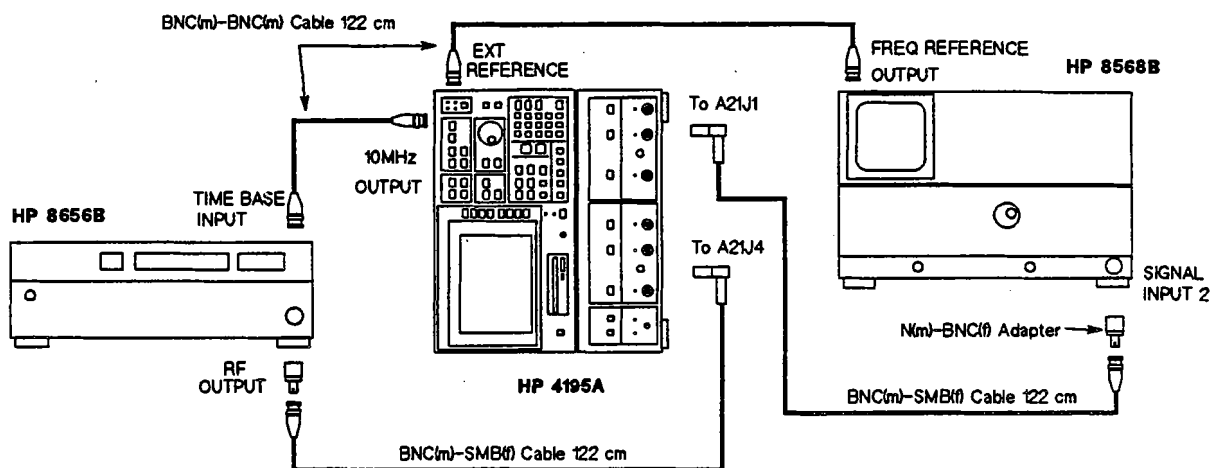
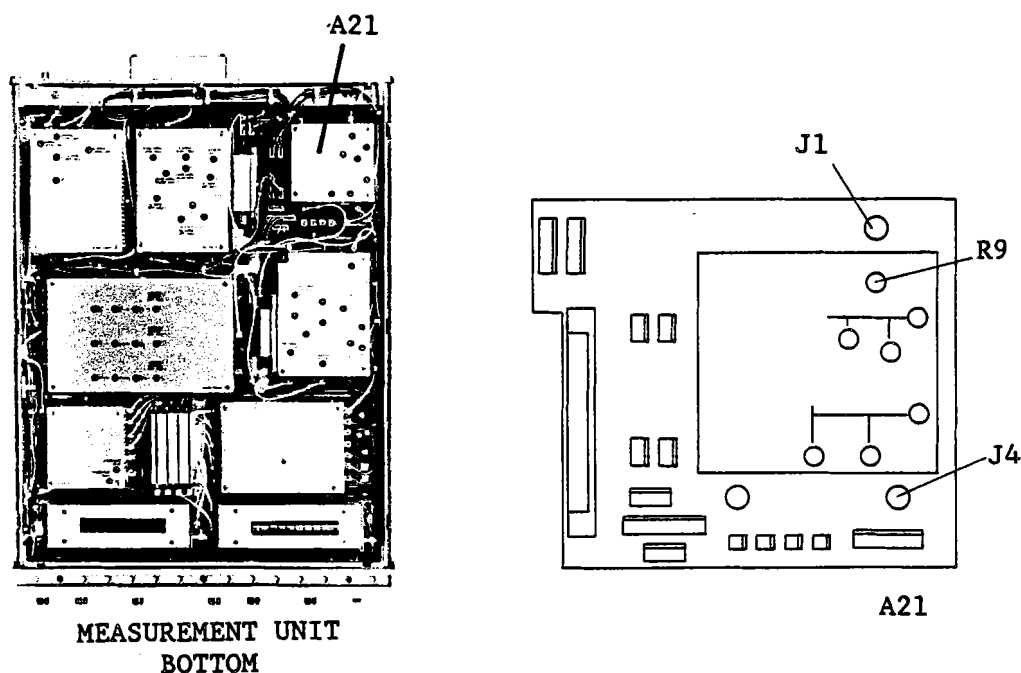

Figure 3-83. Second IF Converter Level Adjustment Setup (2 of 2)
Figure 3-84. Second IF Converter Level Adjustment Locations
5. Connect the equipment as shown in Figure 3-83. See Figure 3-84 for the locations of A21J1 and A21J4.